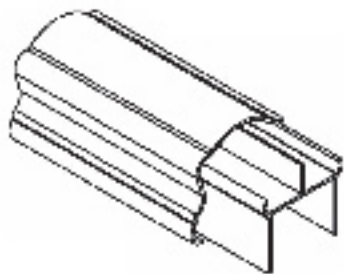

Figure 11. Aluminum Insert for Top Rail
6.) Install Top Brackets and Rail. Insert all the pickets or spindles into the bottom rail. Insert the aluminum insert into the rail in the orientation shown in Figure 11. Place a bracket at the end each rail and feed top rail onto the pickets. Once the top of the rail has been seated onto all the pickets and the rail is level install the brackets using four #12 x 1¼ Hi/Lo screws. Finish off the bracket by gluing the screw hole covers in place.